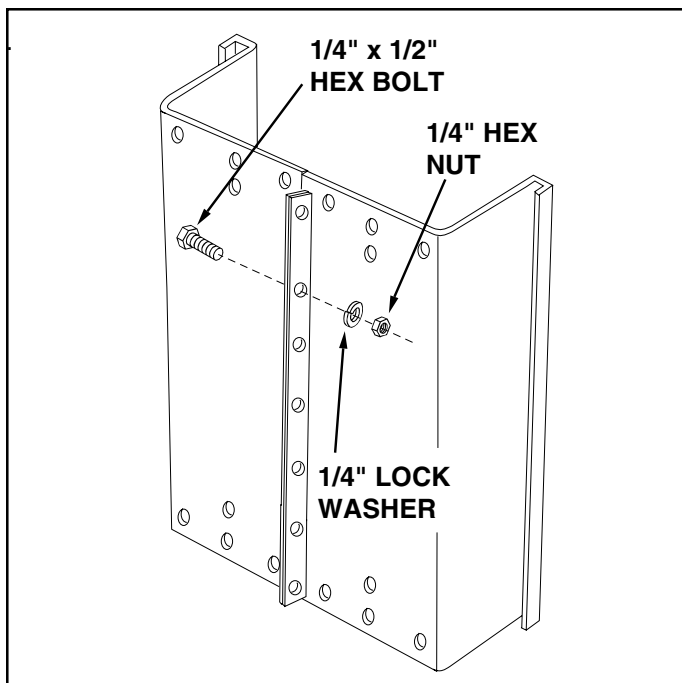

FIGURE 2
3. Position cart body halves upright on a smooth level surface as shown in figure 2.
4. Assemble halves together using seven 1/4" x 1/2" hex bolts, 1/4" lock washers and 1/4" hex nuts. **Do not tighten at this time.** See figure 2.